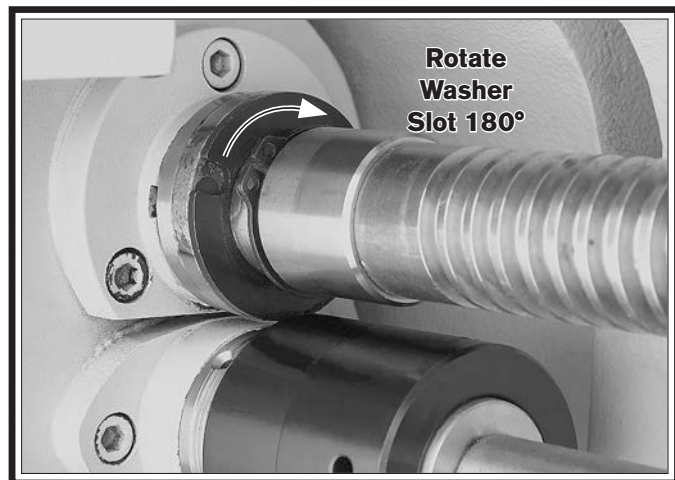

Figure 144. Shroud washer positioning.
10. With the pin completely seated in the bore and the head flush with the leadscrew shoulder, slide the shroud washer against the shoulder, then rotate the washer 180° to completely cover the head of the shear pin, as shown in **Figure 144**.